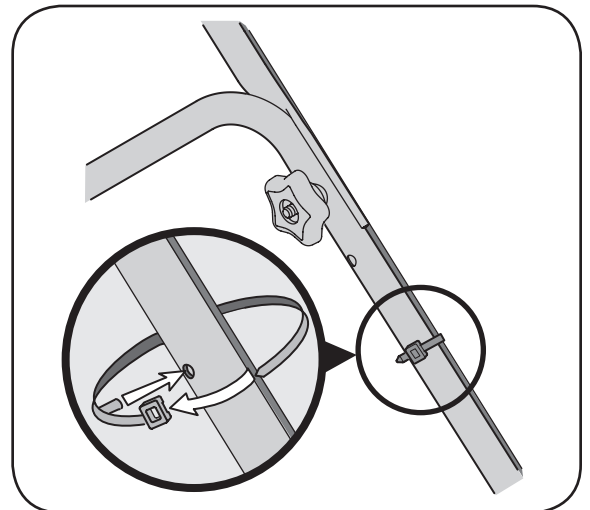

Figure 3-4: Use cable tie to secure cables to lower handle.
4. To secure cables to lower handle, wrap cables around lower handle using the cable tie. Pull cable tie tight and trim excess. See Figure 3-4.